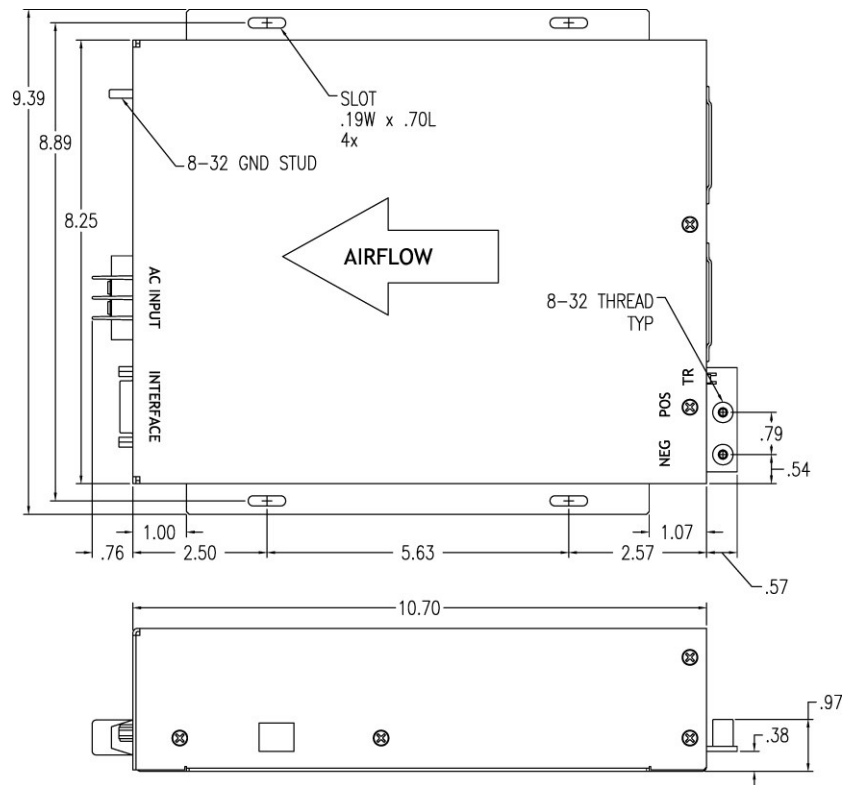
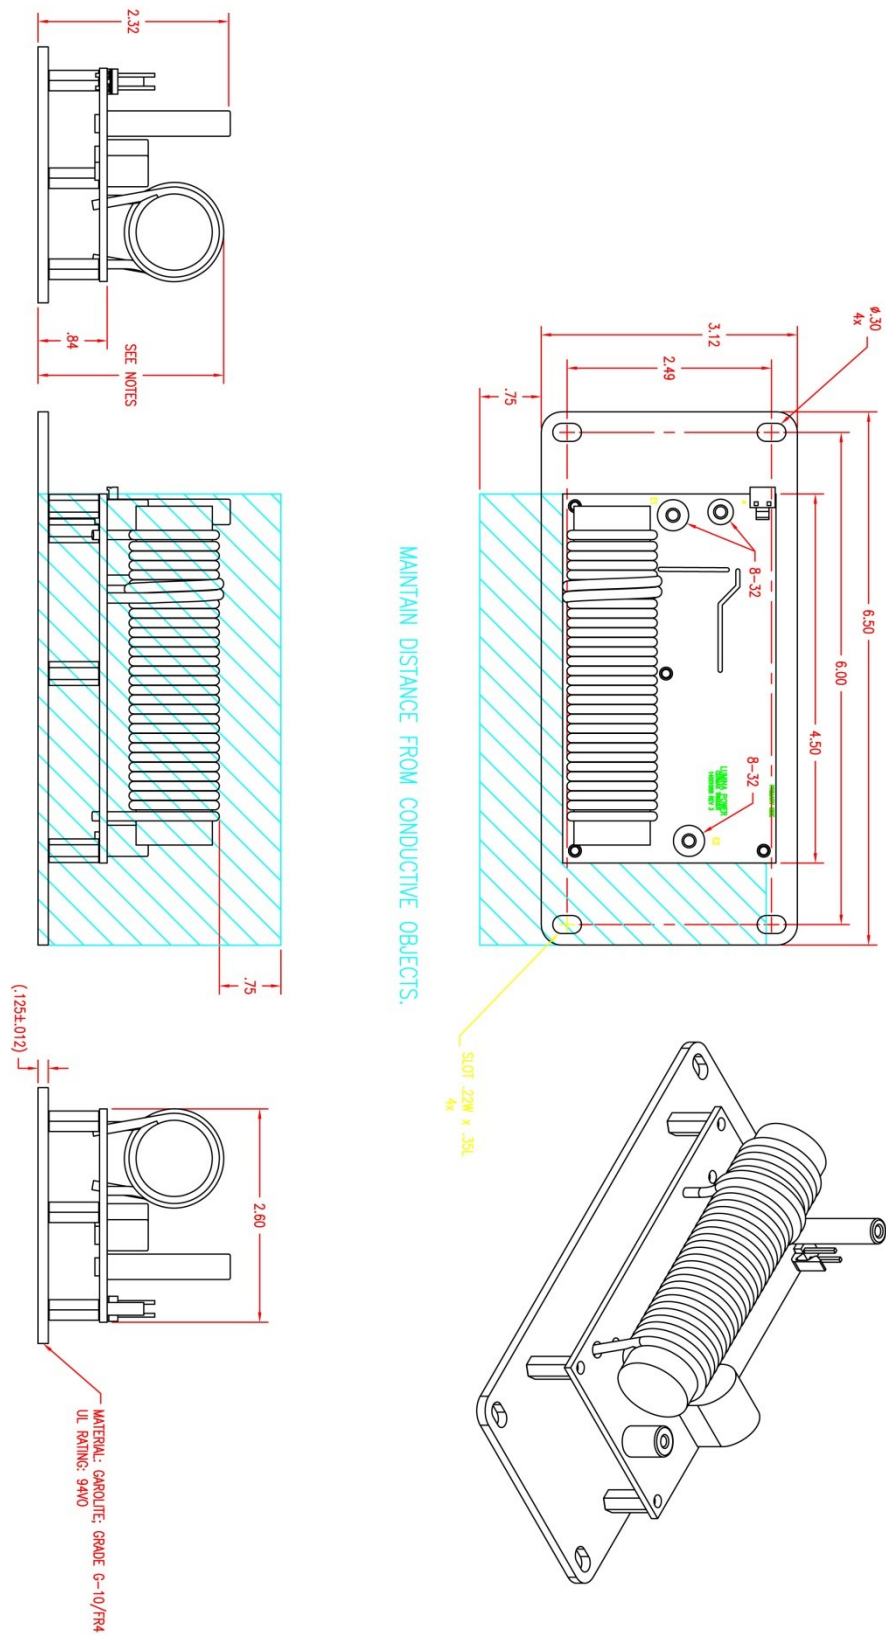

Figure 2
Figure 3
The XLB-1000/1500 chassis is mounted using the mounting brackets as shown in Figure 2, the XLB-1000/1500 Outline Drawing. The XLB-1000/1500 Igniter module has a mounting plate shown in Figure 3.
- Please refer to Figure 3, XLB-1000/1500 Igniter Outline Drawing, for information regarding required clearances around the high voltage igniter coil.